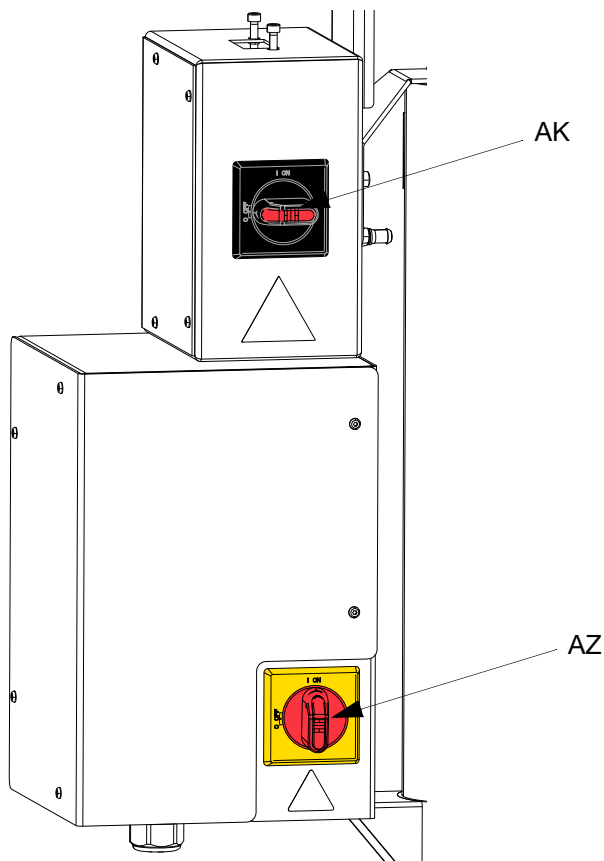
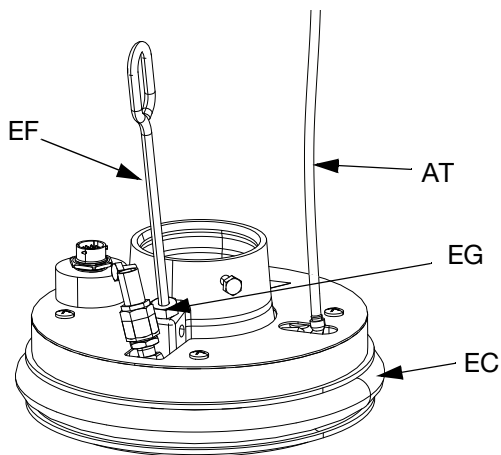

FIG. 37. Power Disconnect
FIG. 40
If the Platen (AD) does not come out of the pail easily when the Pump is being raised, the air assist tube (AT) or check valve (416) may be plugged. A plugged valve prevents air from reaching the underside of the plate to assist in raising it from the pail. See FIG. 40 on page 44.
1. Turn off power to the Electric Driver (AB):
- a. If using an ambient Single Ram Supply System, turn the red Disconnect Switch (AZ) OFF. See FIG. 37.
- b. If using a heated Single Ram Supply System, turn the black Power Junction Box Switch (AK) OFF. See FIG. 37.
- c. If using an ambient Tandem Ram Supply System, turn the red Power Junction Box Switch (AK) OFF on the Ram Supply Unit that requires a drum change only. See FIG. 37.
- d. If using a heated Tandem Ram Supply System, turn the black Disconnect Switch (AZ) OFF on the Ram Supply Unit that requires a drum change only. See FIG. 37.